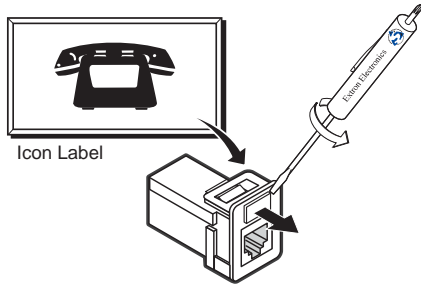

Figure 3-3 — Changing the connector icon
4. Snap a replacement bezel in place. If necessary, replace the connector icon by prying the old icon off of the connector plug-in with a tweeker (figure 3-3) and snapping a new icon in place.